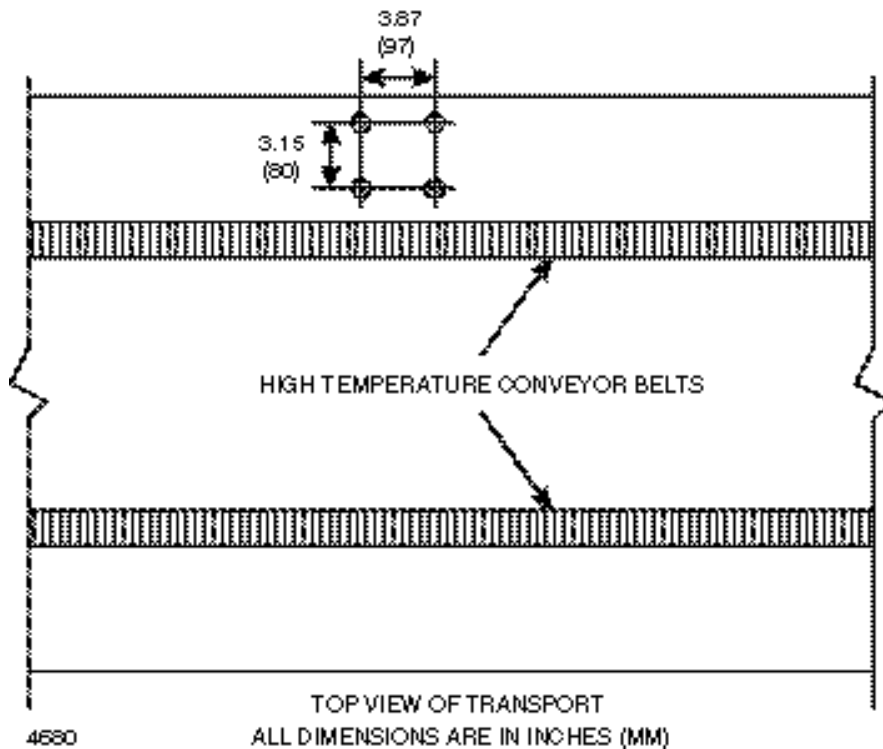

Figure 3-2. Top View of Transport Illustrating Drill Hole Dimensions.
2. Mark the location of the mounting holes. Drill four 9/32-inch (7.0 mm) diameter holes in the transport top (Figure 3-2).